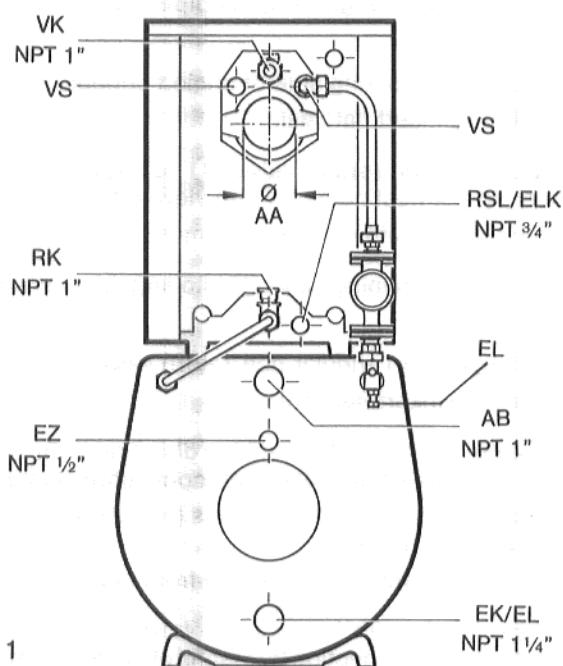

Fig. 1
2. Dimension and connections (Fig. 1 and 3)